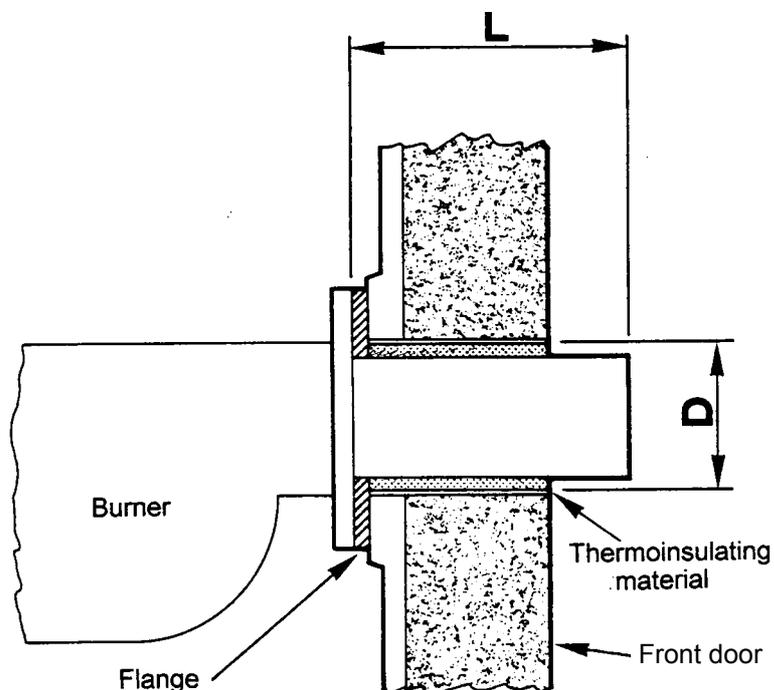

Fig. 6
**IMPORTANT: check that the air spaces between the burner draught tube, minimum length 130 mm (L) and the burner aperture are suitably filled with thermo insulating material (Fig. 6).**